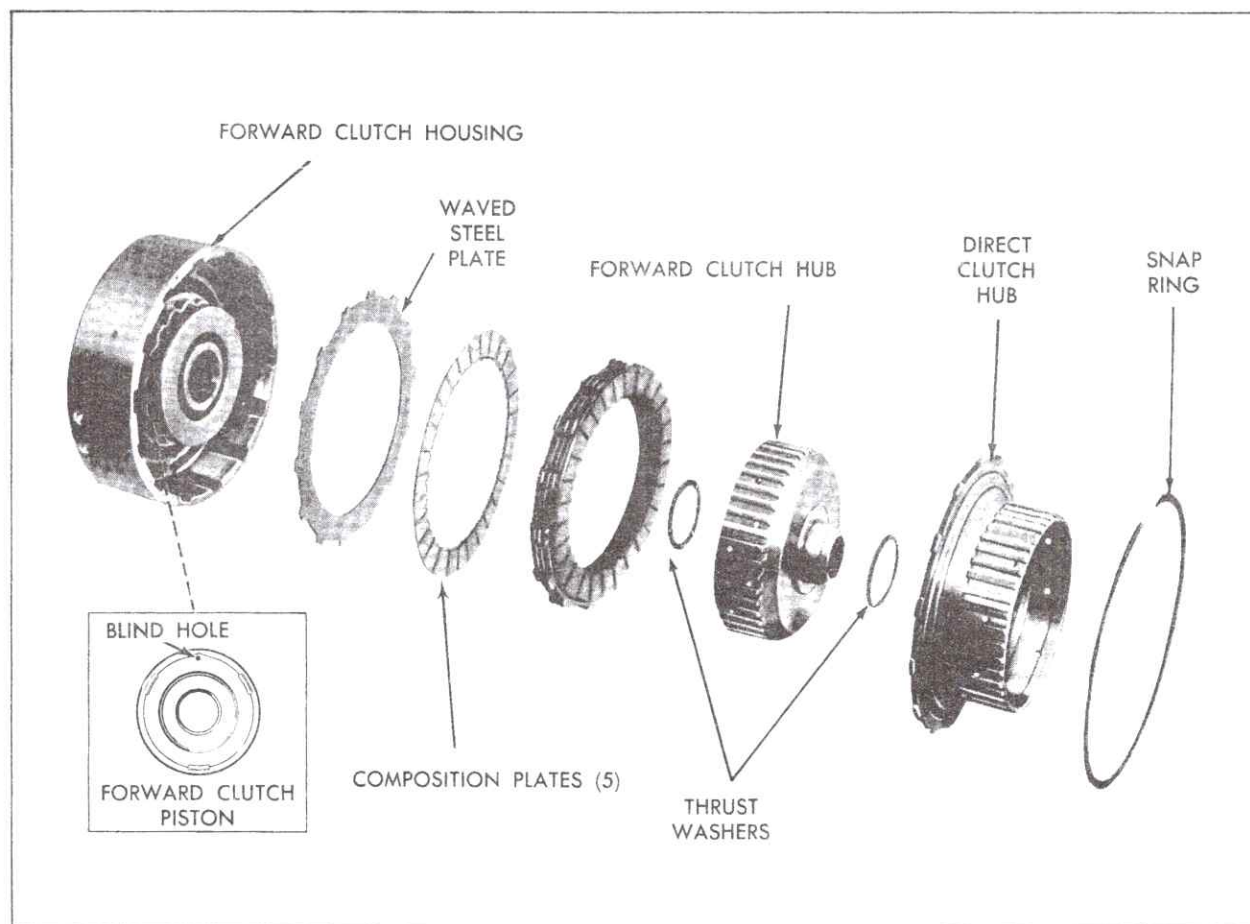

Fig. 7-63 Forward Clutch and Forward and Direct Clutch Hubs Disassembled
4. Remove forward clutch hub and one thrust washer from each side of hub, Fig. 7-63.
11. Lubricate the four flat steel, five radially grooved composition and one waved U-notched steel clutch plates with transmission fluid and install clutch plates in forward clutch housing, Fig. 7-63. Start with waved steel plate and alternate composition and steel plates.